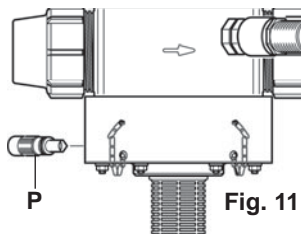

Fig. 11
- Also unscrew the bleed screw (**Fig. 11-P**), remove it and let the water flow out.